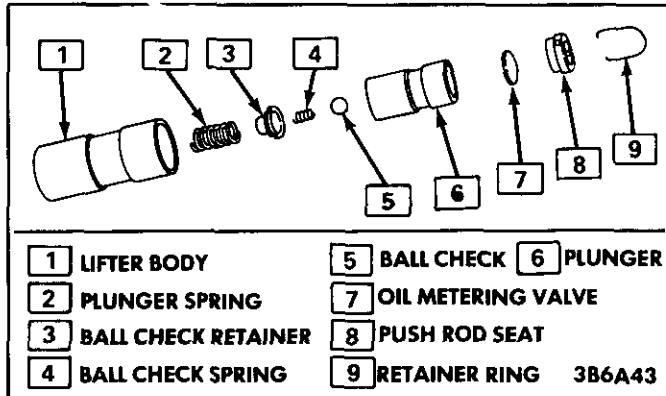
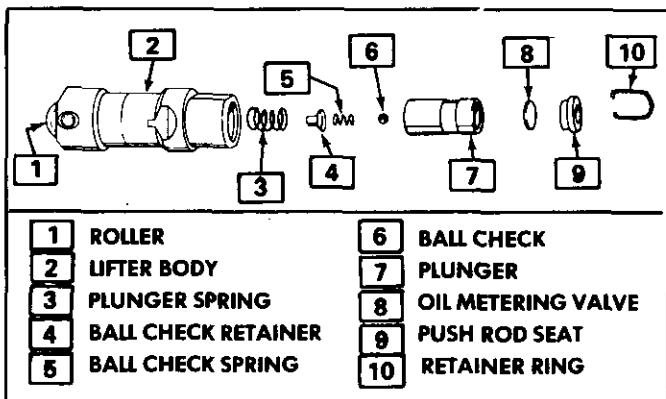

Figure 46 Valve Lifter - Flat Tappet
Figure 47 Valve Lifter - Roller Tappet
- There are two types of valve lifters: a flat tappet hydraulic type (Figure 46) for most engines and a roller tappet type (Figure 47). They function in a similar manner.